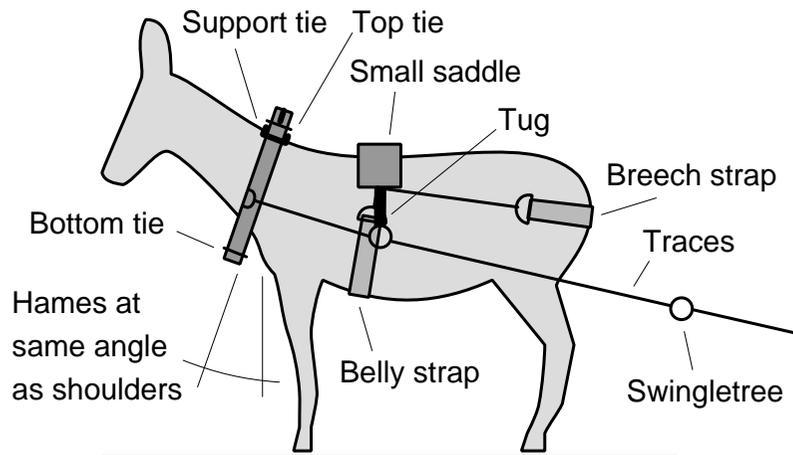

Figure 9: Collar position on donkey with traces pulling at right angles to hames.
- 6) Adjust the lengths of the tugs (the ropes or straps hanging from the saddle if you use one) so that the traces (the ropes or chains which will pull the cart or implement) come back at right angles to the animal's shoulder blades (see Figure 9).
If you are going to pull a cart you must use a saddle as shown in Figure 9 because the cart will need some up or down force to stabilise it and a donkey's back needs the protection that a saddle gives.